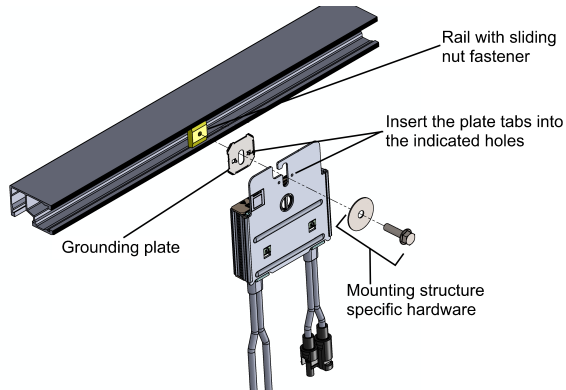

Figure 5: Power optimizer installation and grounding using a grounding plate
- For mounting on rails with sliding nut fasteners:** If the star washer cannot be used, use the SolarEdge grounding plate (purchased separately) between the railing and the flat side of the mounting bracket. Use mounting specific hardware as needed. Apply torque of 9.5 N*m / 7 lb*ft. See *Figure 5*.